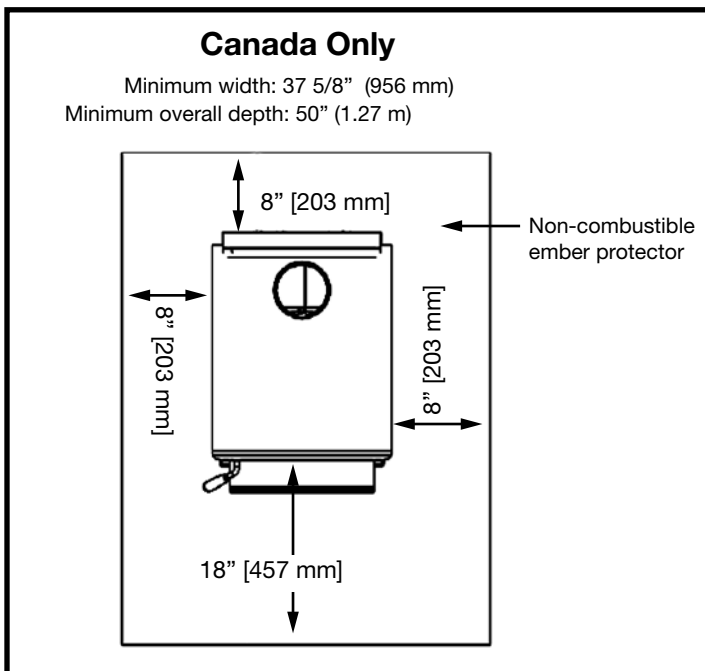
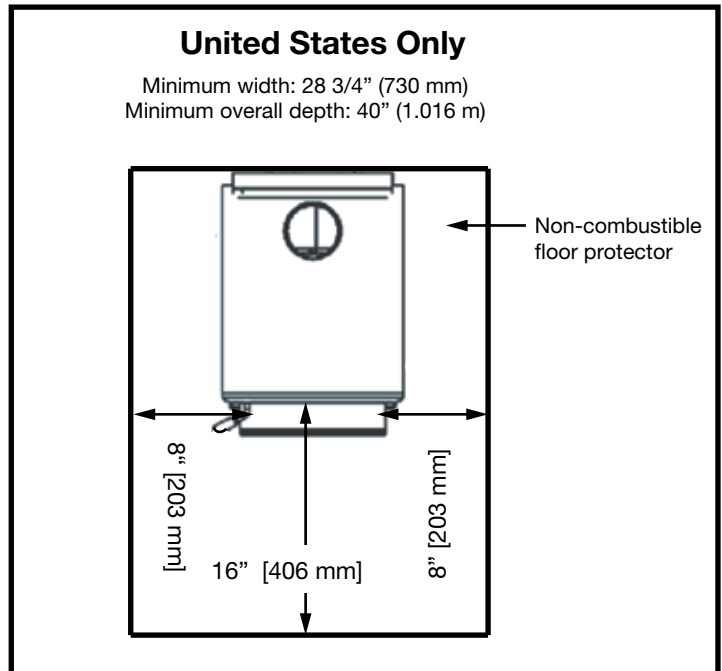

Figure 9: TN25C Floor protector Canada.
Figure 10: TN25C Floor protector U.S..
In Canada: 18" (457 mm) from the loading door on the firing side and 8" (203 mm) from the sides. See Figure 9, below.
In USA: 16" (406 mm) to the front of the firebox and 8" (203 mm) from the sides of the fuel loading door opening. See Figure 10, below. This protection is also required under a horizontal chimney connector and 2" (51 mm) beyond each side of it.
1. Position stove and floor protection (with hole for combustion air if required) in accordance with the clearances as stated on the label and in Figure 9 on page 15 (Canada) and Figure 10 on page 15 (U.S.A.).